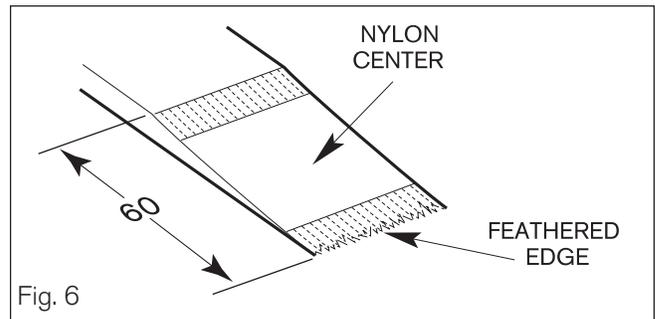

Fig. 6
**4. Bevel Length Adjustment** (Figures 6 and 7)
The belt grinder is preset to provide the correct bevel length for *TSplus* conveyor transport belts, which is 60mm (Figure 6).
7. Once the table has returned to the starting position, turn the power switch to OFF and unplug the grinder. Raise the belt clamp handle and remove the belts. Make sure the ends are properly feathered and free of burrs, as shown in Figure 6 on page 7. Remove any burrs by lightly sanding with 80 grit sandpaper.